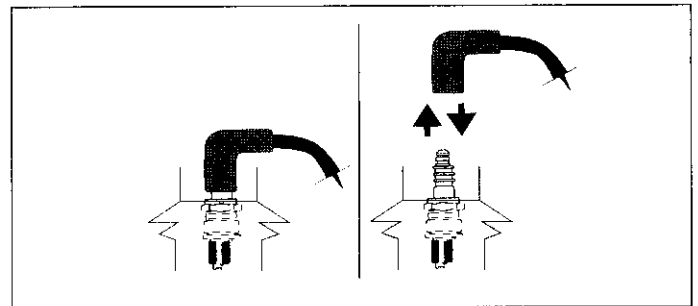

Figure 2. Disconnecting/Connecting Spark Plug
- Disconnect spark plug wire and keep it away from spark plug. See Figure 2.